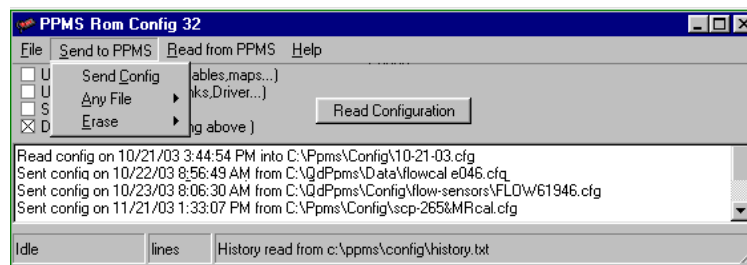
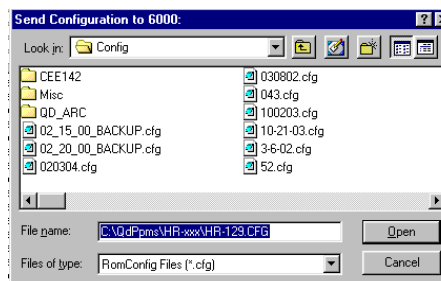

Figure 8. Send to PPMS menu for downloading *.cfg files to Model 6000
Figure 9. Send Configuration to 6000 window
Use the **PPMS Rom Config32** dialog (Figures 8 and 9) to download the *.cfg file or files from the host computer to the Model 6000. As is explained in Section I.A, the **PPMS Rom Config32** dialog is opened by double-clicking on `Romcfg32.exe`.
1. When the **PPMS Rom Config 32** dialog opens, click in the bottom check box next to **Diag (all Configs including above)** to select it (Figure 8).
- The **Send Configuration to 6000** dialog will open, showing the contents of the directory where the most recently downloaded *.cfg files were placed (Figure 9). For example, the **PPMS Rom Config32** dialog in Figure 8 shows that files were downloaded to C:\QdPpms\Config on 11/21/03, and the **Send Configuration to 6000** dialog in Figure 9 shows files in that folder.